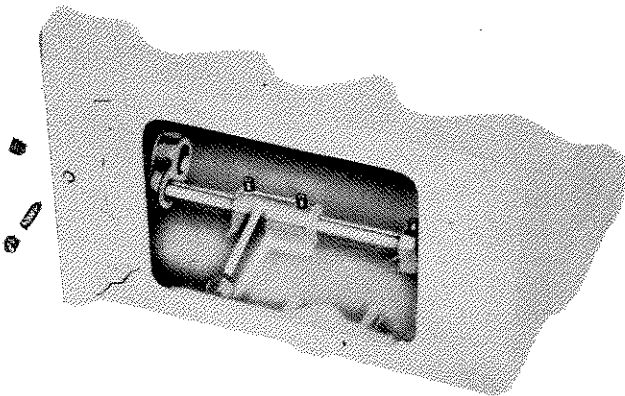

Figure IV-32 Oil Spray Nozzles
The valve tappets can only be taken out after the camshaft has been removed. Check the valve tappets for excessive wear on the wear surfaces. If badly scored or scuffed, replace with new tappets. Thoroughly clean crankcase, using a steam cleaner or cleaning solvent. Blow out oil header tube, and inspect operation of oil spray nozzles and oil line from header tube to governor (figure IV-32).
C. OIL SPRAY NOZZLES (figure IV-32)